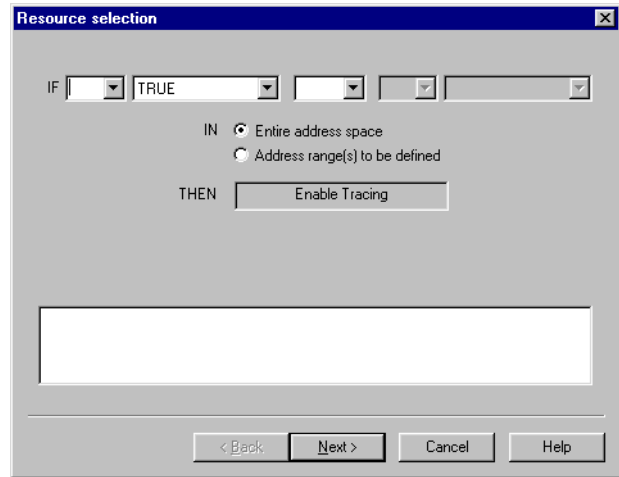

Figure 8-8 Resource selection for Enable Tracing
- Double-click **Enable Tracing** from the Actions list to define a rule. The Enable Tracing Resource selection dialog box shown in Figure 8-8 on page 8-12 is displayed.